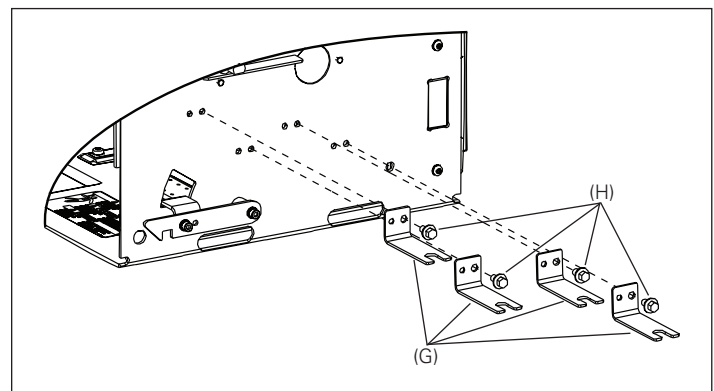

Figure 10. Details for Step 6
Fasten four cable brackets (G) to the drawout cassette's right-side sheet just below the interlock assembly (mounted in **Step 5**) using four M6 x 10 mm thread-forming screws (H) as shown in **Figure 10**. Torque to 7,3–9,6 N·m (65–85 in-lb).